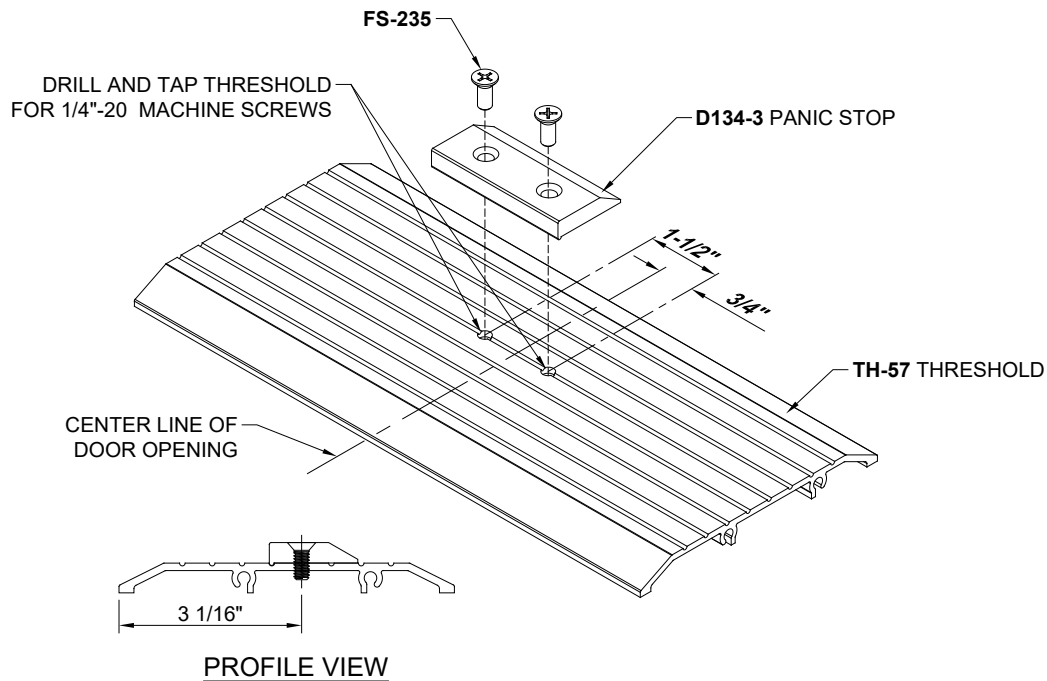

Figure 20: Panic Stop Attachment
- 6.4 Reference Figure 20 for fabrication and installation for **D134-3** Panic Stop.